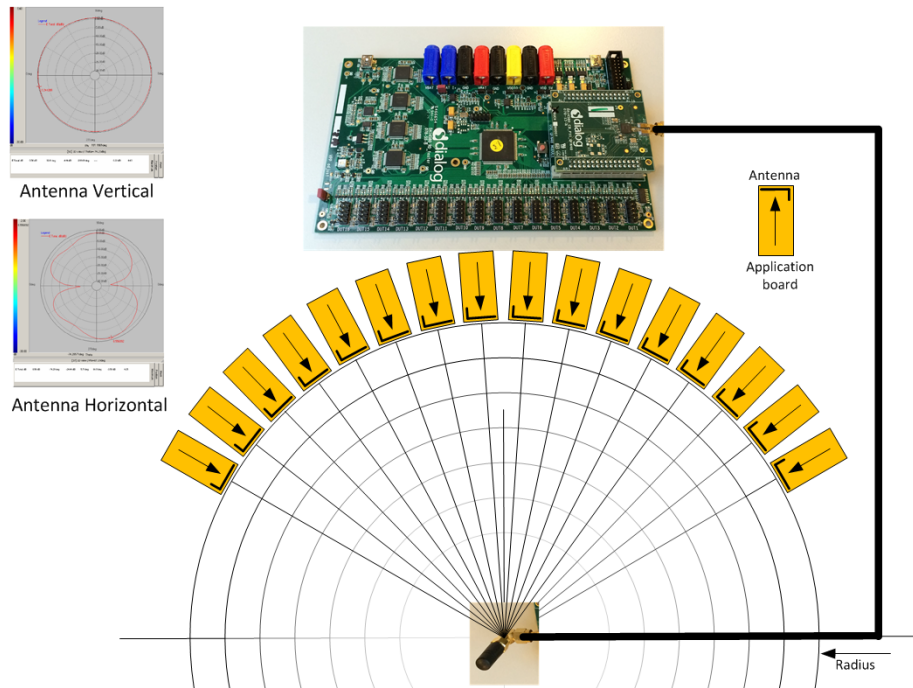

Figure 116: Possible Solution of Antenna on Cable and Fixed Radius of DUTs to Antenna
- A vertical GU antenna has different characteristics from a horizontal one, see Figure 116